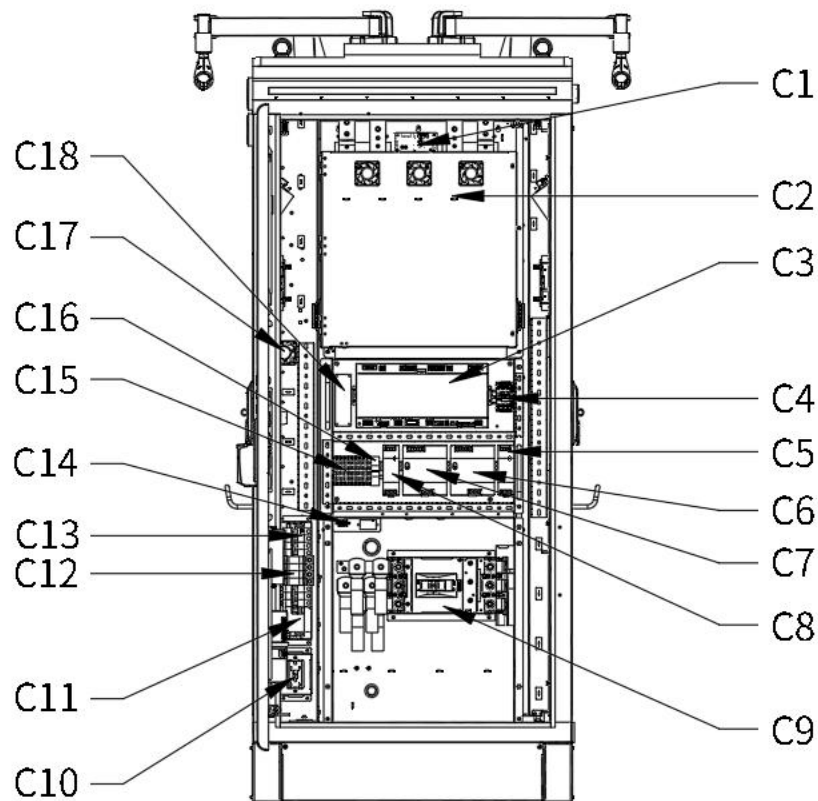

Figure 8 Internal Component Diagram
- (2) The internal structure diagram of the product is shown in Figure 8